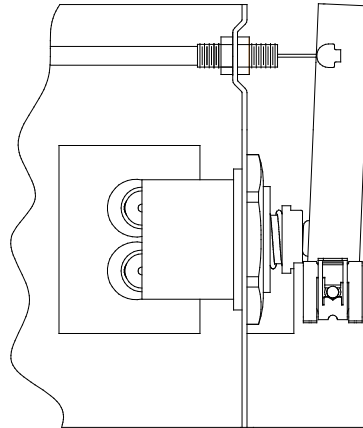

FIG. 6
3. Remove cable free play by adjusting the jam nuts on the ends of the operating cable. See Figure 6.